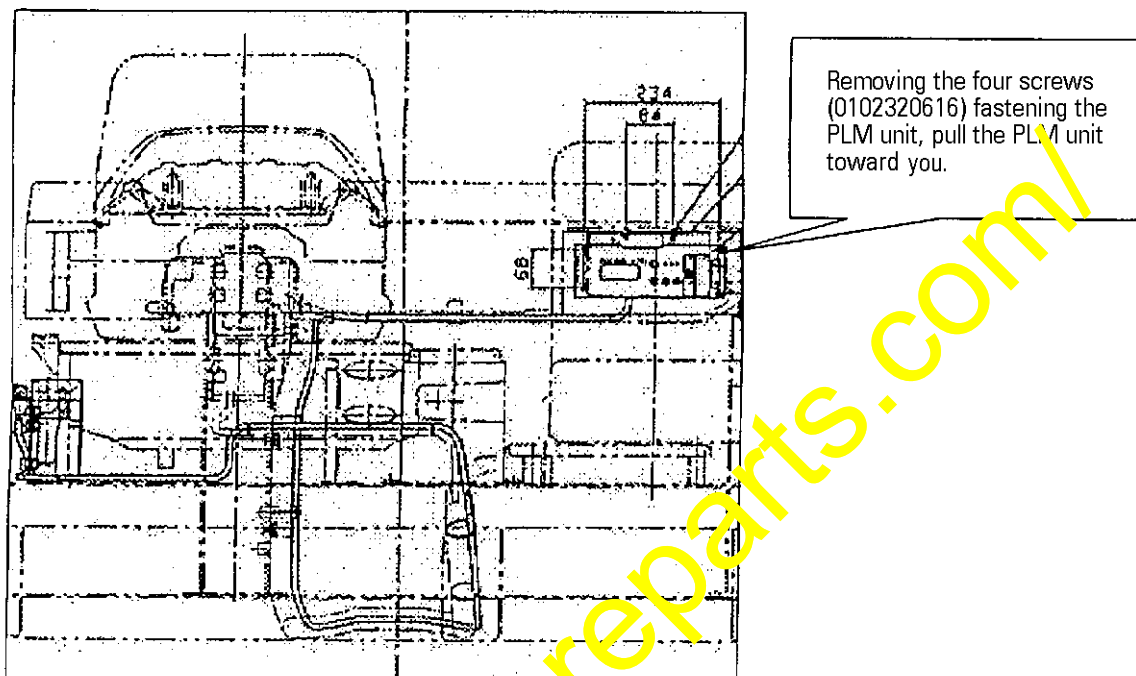
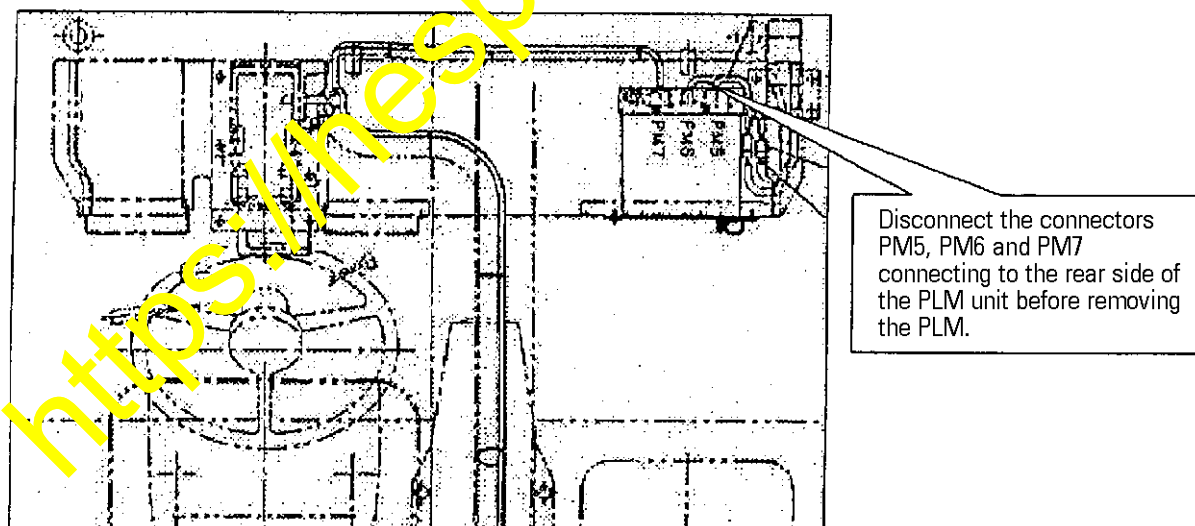

Fig. 1
Fig. 2
- (1) Park the vehicle on a level place, apply the parking brake, turn off the starting key and insert chocks behind the wheels.
- (2) Remove the PLM unit located in front of the assistant's seat. Refer to Fig. 1 and Fig. 2.